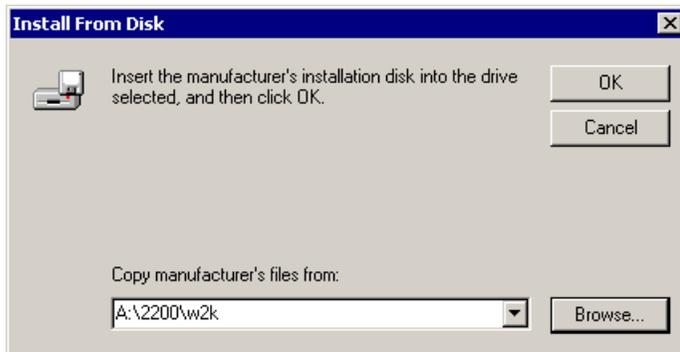

Figure 3-5 Pointing to the new driver
- Now click **Update Driver** and install the driver that you downloaded in the planning stage. Follow the steps, selecting **Have Disk** and enter the path to the new driver as shown in Figure 3-5: